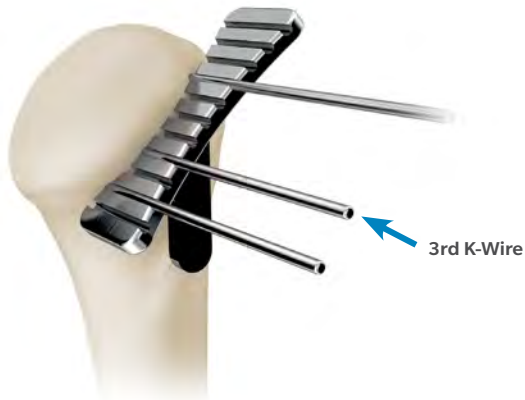

Figure 14
- Set additional 3rd and 4th K-Wire to your requirements (Figure 14 and 15).